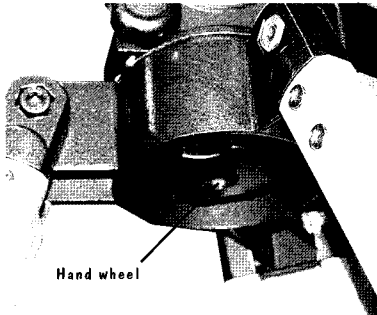
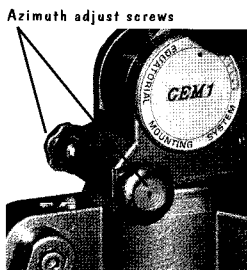

Fig.5 Large hand wheel to lock mount into place..
Fig.14 Azimuth Adjust Screws x2
3. You now need to place the equatorial mount on top of the tripod. There will be a large hand wheel on the bottom of the mount (**fig.5**), unscrew this, then place the mount on the tripod making sure the peg on the tripod top goes between the two azimuth knobs (**fig.14**). Now replace the hand wheel so it goes through the tripod top into the mount. Then tighten the azimuth screws against the peg.
Having done this, the alignment procedure will be easier if you ensure the tripod is vertical, which may mean adjusting the legs if it is on slightly uneven ground. Keep checking the view through the polar finder until you see Polaris come into view. Do not bother if it is to the left or the right at the moment. To adjust it's position to the left or right adjust the Azimuth adjustment screws (fig.14) until Polaris is quite near the centre of the field in your polar finder. If these two black knobs are difficult to rotate, slacken off slightly the large black hand wheel (fig.5) which secures the equatorial head to the tripod.